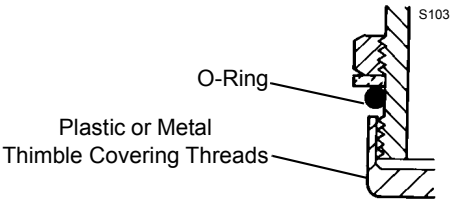

FIGURE 2-6
- Be careful not to cut the o-rings when assembling them to fittings. Use a thimble as shown in Figure 2-6 when assembling o-ring over threads.